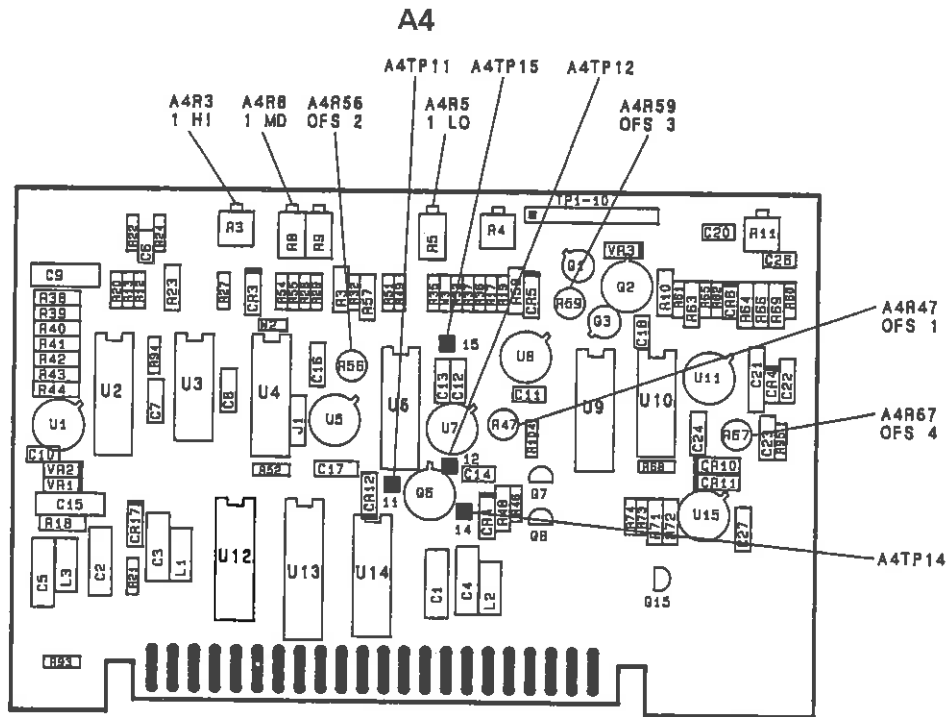

Figure 5-11. A4 ALC Board Adjustment Locations
2. Float the ground on the digital voltmeter and measure the voltage between A4TP12 and A4TP14 (see figure 5-11). Adjust A4R47, OFS 1, for  $0.000\text{ V} \pm 0.001\text{ V}$ .